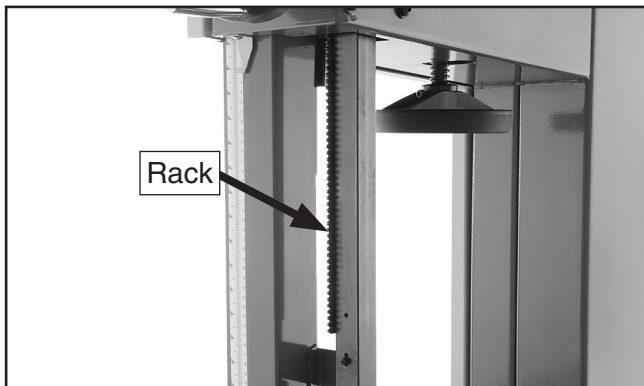

Figure 13. Rack lubrication location.
3. Wipe off any existing grease and sawdust buildup on the rack (see **Figure 13**).